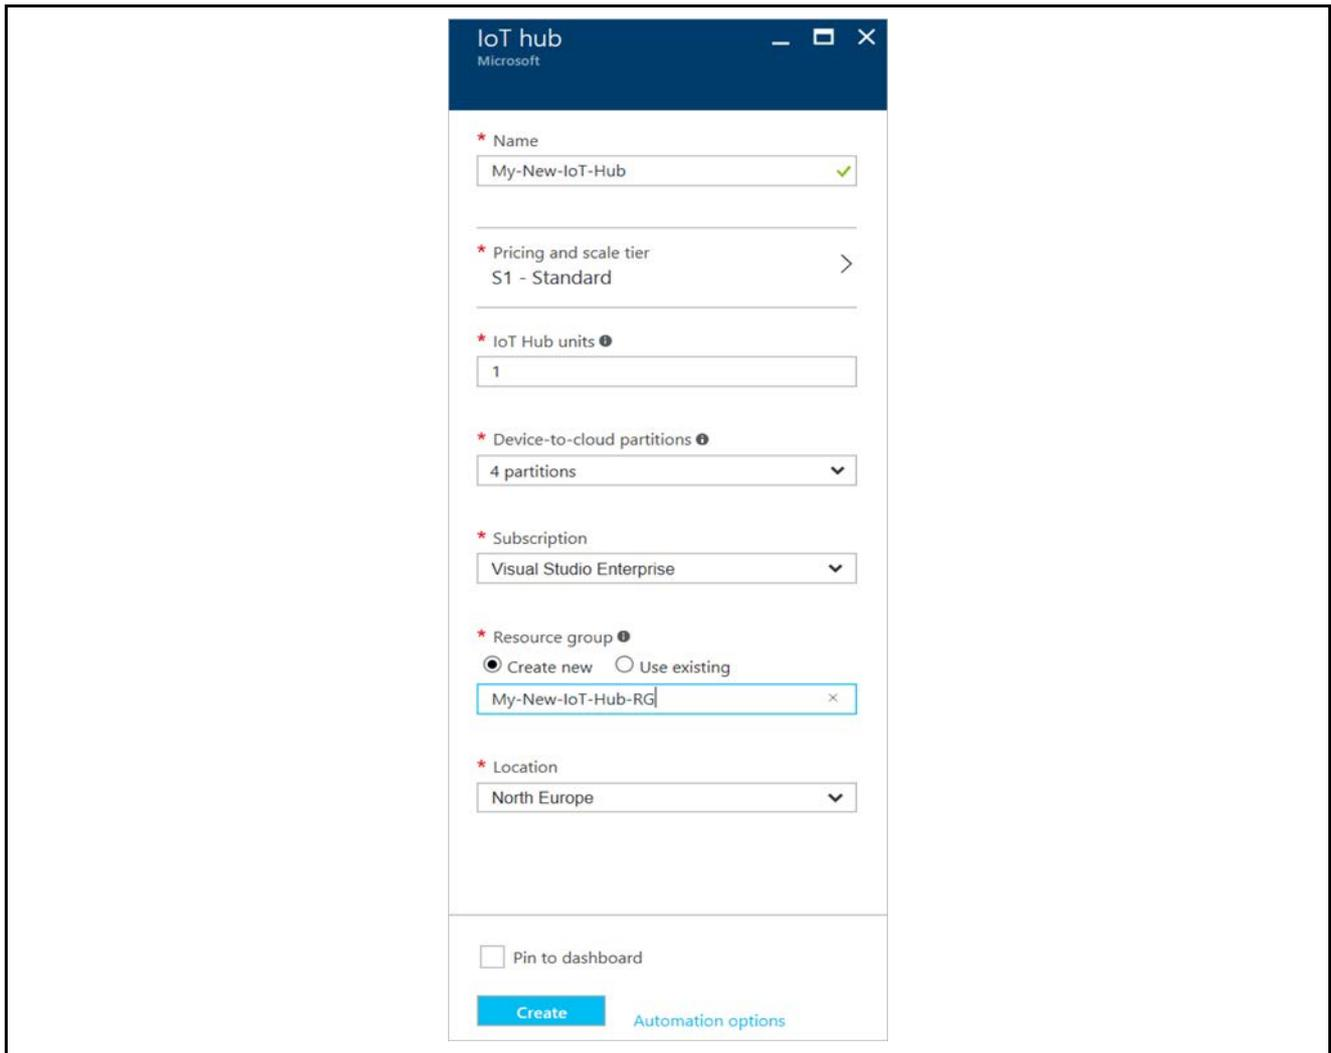

Figure 13. Selecting the Azure IoT Hub Subscription
3. **Choose the name of the IoT hub:** To create an IoT hub, you must name the IoT hub. This name must be unique across all IoT hubs. To fill out the form shown in Figure 13, refer to the following information: